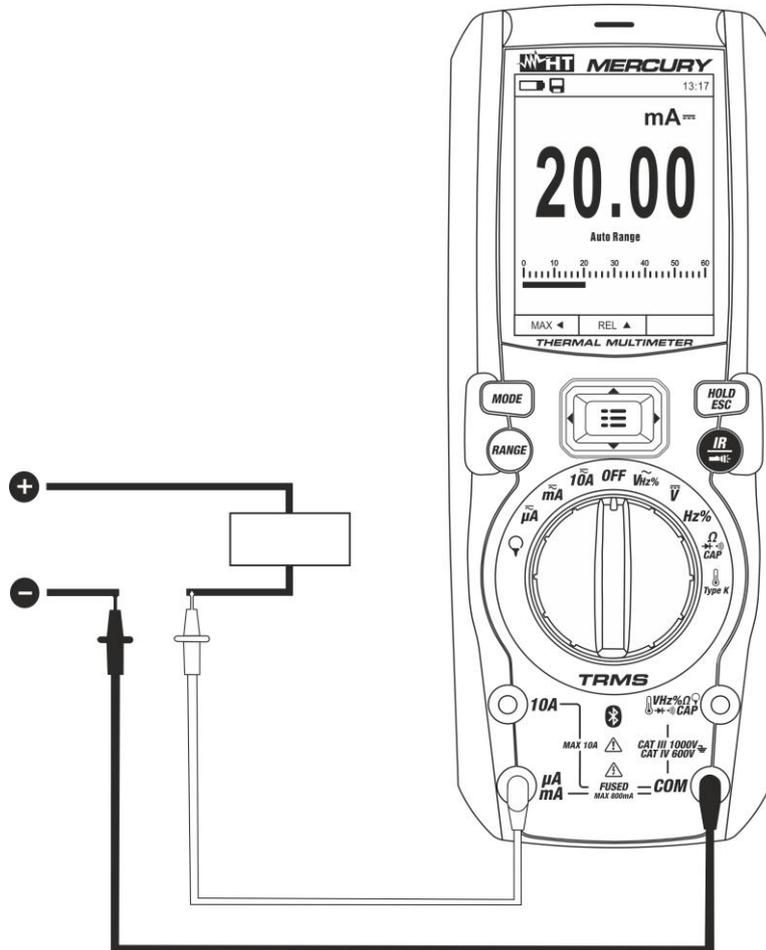

Fig. 28: Use of the instrument for DC and AC+DC current measurement
4. Connect the red lead and the black lead in series to the circuit whose current you want to measure, respecting polarity and current direction (see Fig. 28).
8. When symbol "-" appears on the instrument's display, it means that current has the opposite direction with respect to the connection in Fig. 28